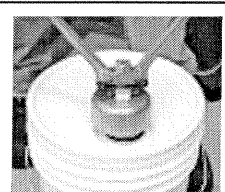

FIGURE 4
2. Place a Rieke Model FS-600 crimping tool over the fitment and simultaneously depress both handles. (fig. 4 & 5)
**Note:** A pneumatic Rieke, IA-FS-600, IA-FS-600-06, or ADP-7 with HFS-600 sealing tool may be used provided that the Rieke installation instructions are followed accordingly. For more information, please contact the Rieke Corporation directly at (219) 925-3700.